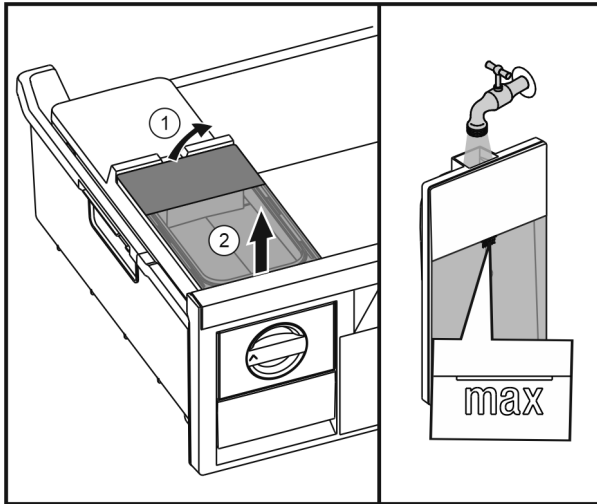

Fig. 43
- ▶ Lift up the water tank at the rear Fig. 43 (1) and take it out upwards Fig. 43 (2).